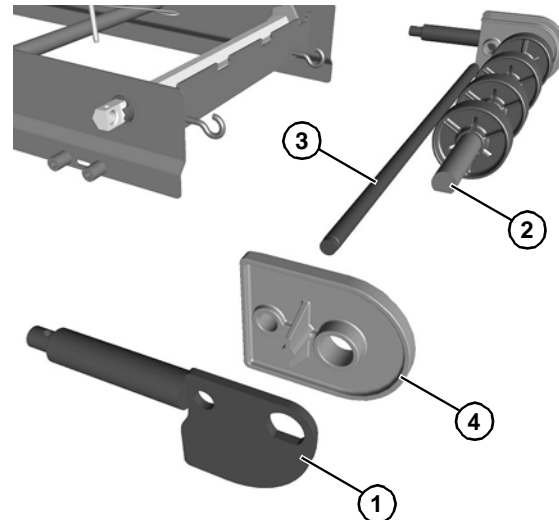

Figure 66
3. Remove the shaft assembly (**Figure 66, item 1**) from idler shaft (**Figure 66, item 2**) and pinch guard shaft (**Figure 66, item 3**).
4. Remove tracking plate (**Figure 66, item 4**) from idler shaft and pinch guard shaft.
5. Remove pinch guard shaft (**Figure 66, item 2**).